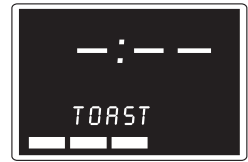

Figure 3
2. Press the TOAST button. The default setting is medium toast color and three bars will appear in the Display Window. (See Figure 3.)